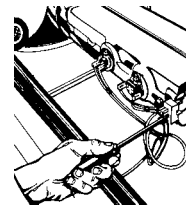

Fig. 32
2. Remove the screw from side of heater box (Fig. 32) and slide the heat element out of dryer.